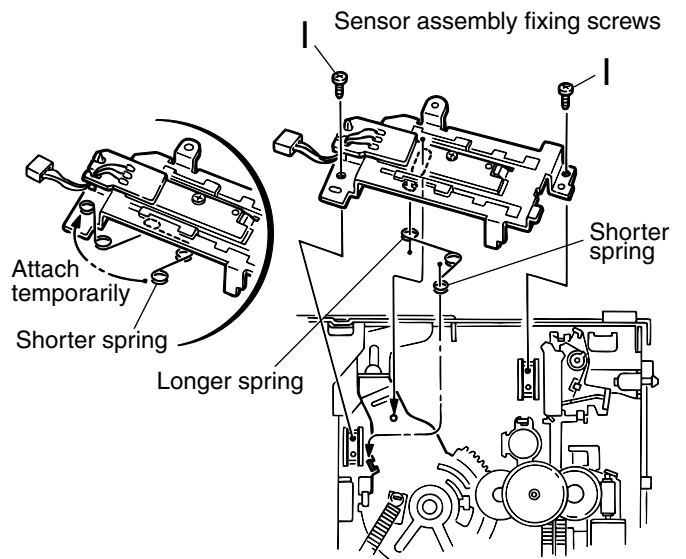

Fig. 47
■ Mounting the sensor board assembly (See Fig.47)